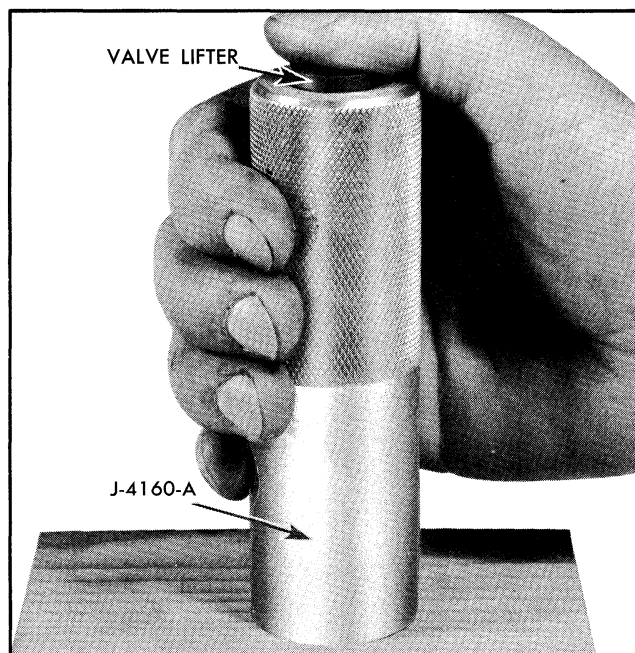

Fig. 6-100 Removing Stuck Plunger With J-4160-A
2. Invert lifter and allow push rod seat and plunger to slide out of body. If plunger sticks in body, place lifter in large end of hydraulic valve lifter plunger remover J-4160-A, with push rod end of lifter downward. Hold tool firmly in hand with thumb over lifter body and sharply strike the tool against a block of wood (Fig. 6-100) until plunger falls out.